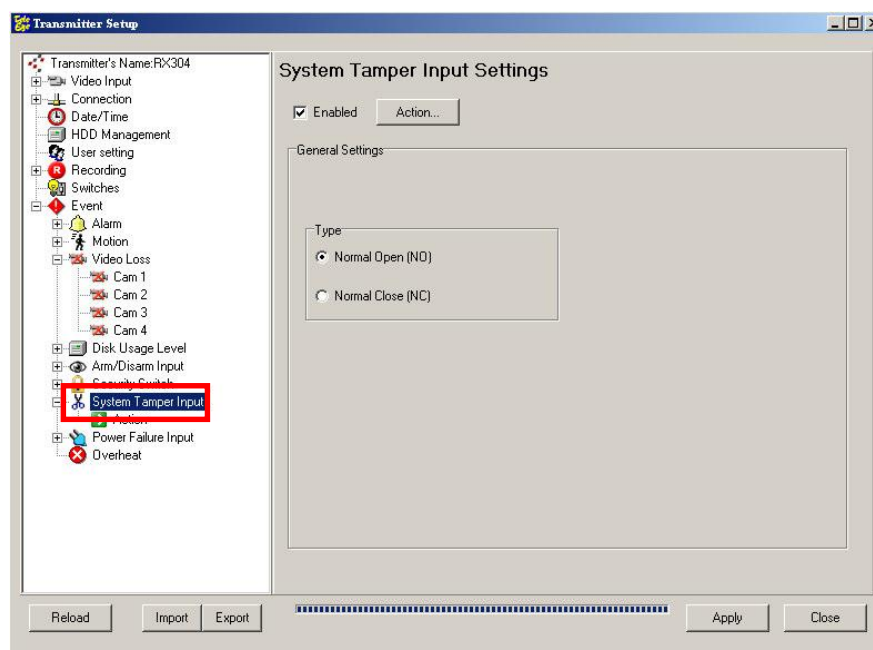

Fig 8.1.6a
Step 1 : In {Transmitter Setup} panel, click [Event] → [System Tamper Input] option to pop up {System Tamper Input Setting} panel as Fig 8.1.6a